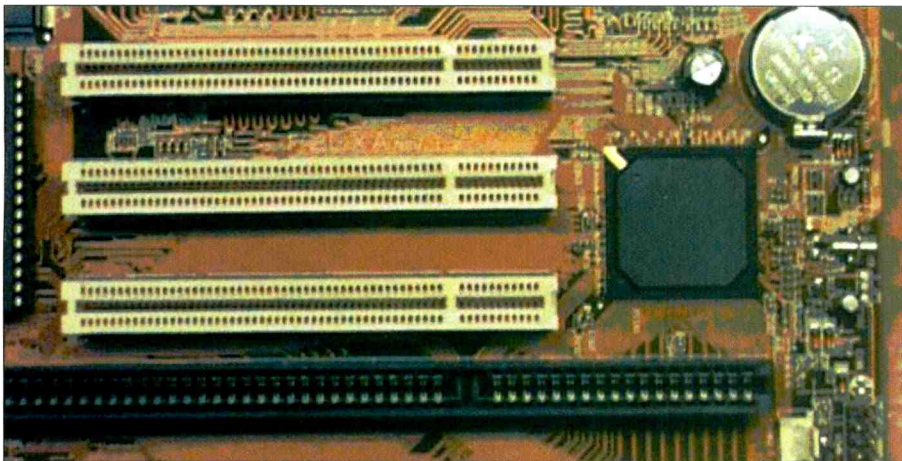

Figure 1E. Board ID between PCI slots.
In Figure 1D, we see another model number, AP5C/P. This time, a simple web search on that string returned numerous (102) hits. Among the top ten hits, six were for pages on Acer or AOpen sites. A couple of clicks later and we're at <http://english.aopen.com.tw/>, the English-language home page for this manufacturer. Pretty sweet, huh? Let's take a look at the last picture, Figure 1E.